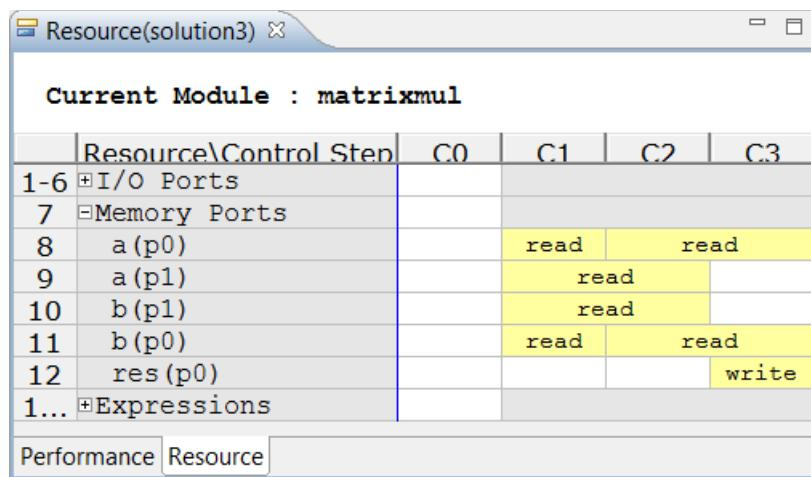

Figure 7-12: Matrixmul Pipeline Col Resource View
10. Expand the **Memory Ports** to see the view shown in Figure 7-12.
In Figure 7-12 the 2-cycle read operations in state C1 overlap with those starting in state C2 and so only a single cycle is visible; however, it is clear that this resource is used in multiple states.